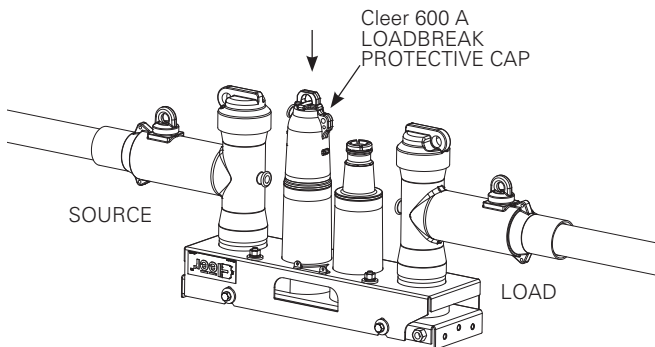

Figure 9. Install Cleer 600 A loadbreak protective cap
- Using a clampstick, install a Cleer 600 A loadbreak protective cap on the source-side loadbreak bushing. See **Figure 9**.